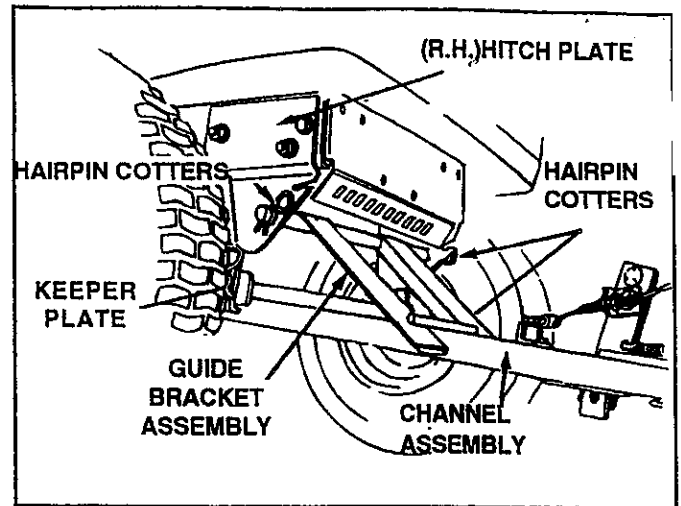

FIGURE 33
- G. Refer to figure 33 and remove hairpin cotters from end of channel assembly pivot shaft and remove keeper plates. Lift the channel assembly pivot shaft out of the hitch plates and lower channel assembly to the ground.